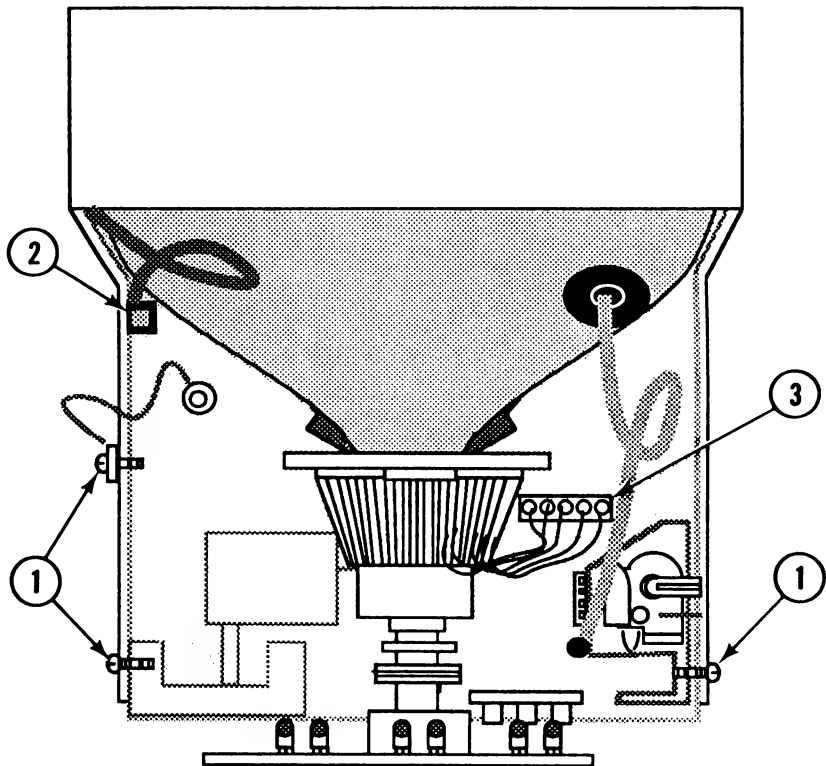

FIGURE 9
4. Carefully unplug connector PC (Figure 9, #2).
6. Remove the three screws (Figure 9, #1) that secure the main logic board to the metal chassis. Note which screw holds the ground wire.
9. Carefully unplug connector DY (Figure 9, #3).